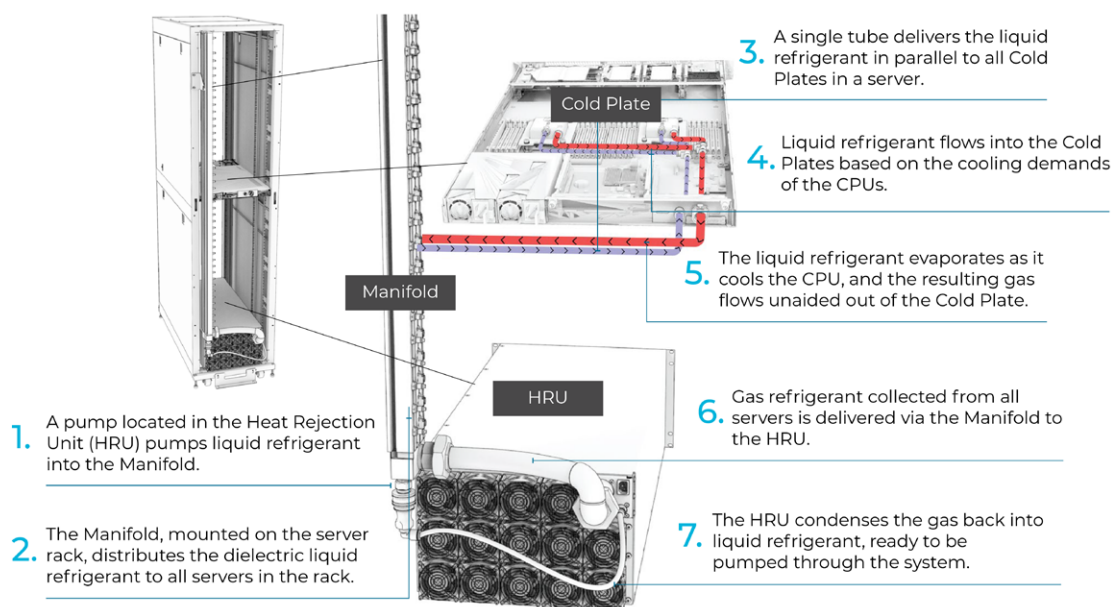

Figure 9: Two-phase direct to-chip, closed-loop dielectric liquid cooling solution with an air HRU. Source: zutacore.com
- Heat Rejection Units (HRUs) move dielectric fluid to the servers via manifolds and ensure efficient vapor condensation and rejection of the heat it contains. HRUs are self-contained, fully autonomous units with independent sensors, pumps, controllers, and multi-level leak detection and prevention supporting higher rack power densities. Depending on a data center's design and specifications, air or water can be utilized as the cooling source. Figure 9 shows the solution with an air HRU.